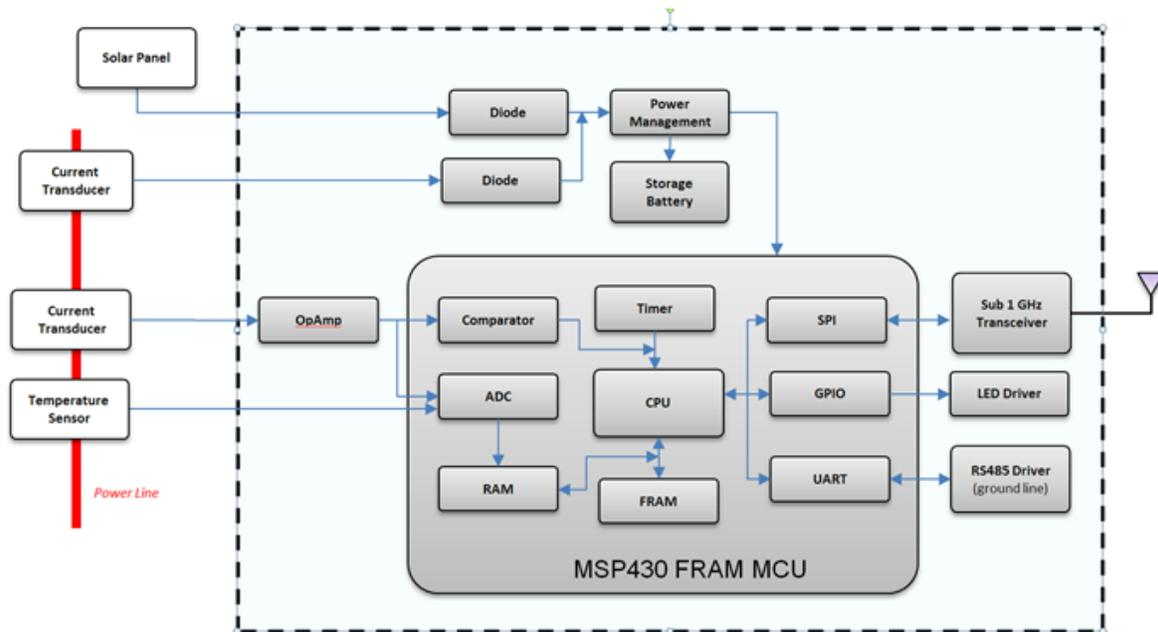

Figure 2. Functional Block Diagram of a Smart Fault Indicator Based on the MSP430 FRAM MCU
Figure 2 is a functional block diagram of a smart fault indicator based on the TI MSP430™ ferroelectric random access memory (FRAM) microcontroller (MCU). The current transducer produces an analog voltage proportional to power-line current. An operational amplifier (op amp) amplifies and filters this voltage signal. The analog-to-digital converter (ADC) on the MCU samples the output of the op amp. The digital stream from the ADC is then analyzed by software running on CPU or accelerator. The op amp output is also connected to a comparator on the MCU. The comparator generates a flag to the central processing unit (CPU) in the MCU if the input level is beyond a predetermined threshold.
- Use energy harvesting. The functional block diagram in Figure 2 shows two possible sources for energy harvest: a solar panel and a power transmission line (via a current transducer).